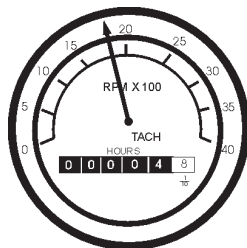

Figure 49. Engine Tachometer Gauge
16. The *tachometer gauge* (Figure 49) will indicate the speed of the engine when the generator is operating. Under normal operating conditions this speed is approximately 1800 RPM's.